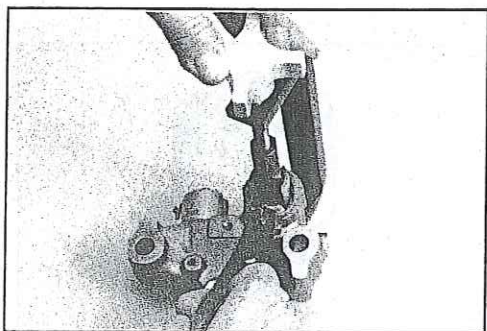

Fig. 55
3. Turn the handle slowly until the retainer is depressed about 0.040 in. (1 mm) relieving pressure against the retaining ring. See Fig. 55.